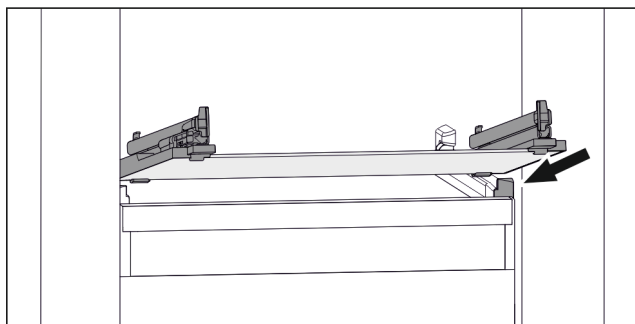

Fig. 48 Example illustration of glass shelf
- Position glass shelf at an angle behind the stoppers. (see Fig. 48)